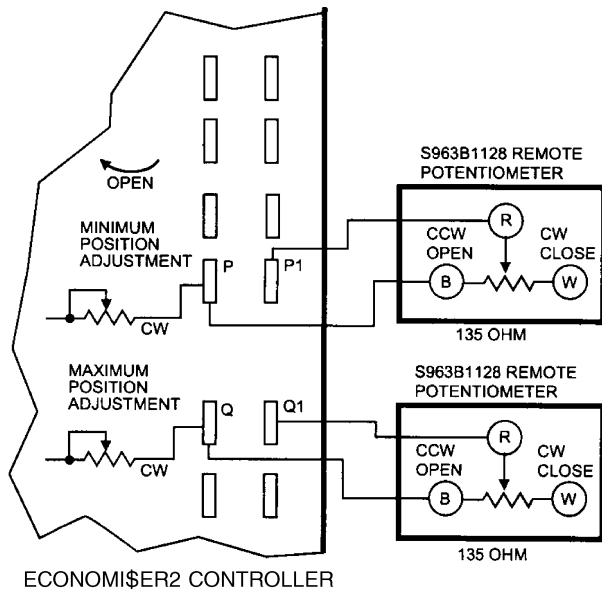

Fig. 31 — Remote Damper Position Potentiometer Wiring
3. Ensure that the factory-installed jumper is in place across terminals P and P1. If remote damper positioning is being used, make sure that the terminals are wired according to Fig. 31 and minimum position potentiometer is turned fully clockwise.
2. Ensure that the factory-installed jumper is in place across terminals Q and Q1. If remote damper positioning is being used, make sure that the terminals are wired according to Fig. 31 and minimum position potentiometer is turned fully clockwise.
To control the minimum damper position remotely, wire the field-supplied potentiometer to the P and P1 terminals on the EconoMiSer2 controller. See Fig. 31.
To control the maximum damper position remotely, wire the field-supplied potentiometer to the Q and Q1 terminals on the EconoMiSer2 controller. See Fig. 31.